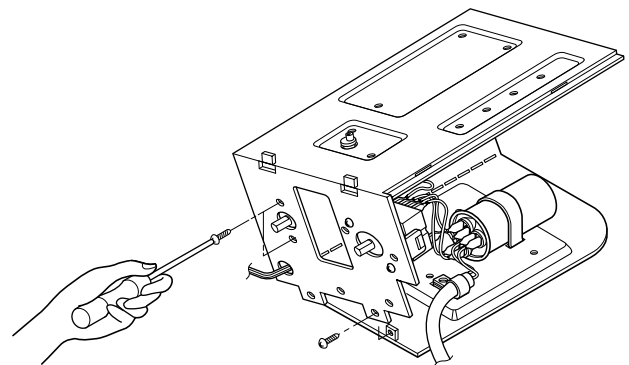

Figure 13
5. Remove the thermostat. (See figure 13)